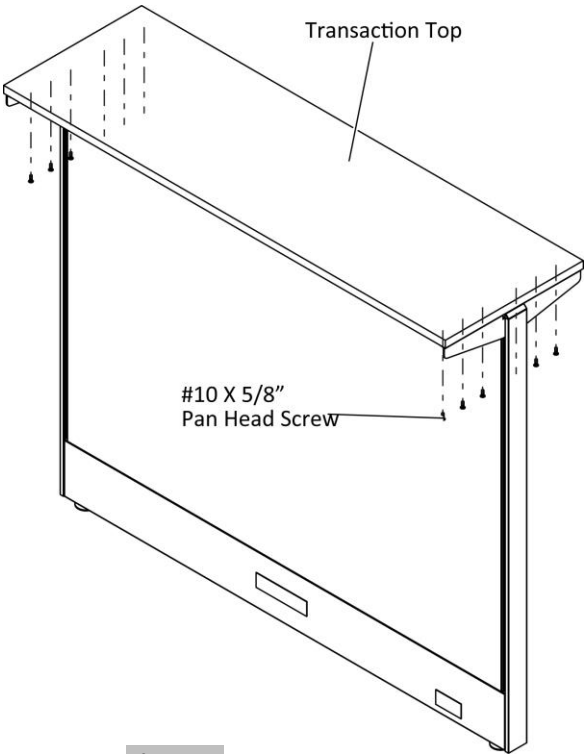

Figure 2
- 3. Position the transaction top over the brackets and align the holes in brackets to the pilot holes provided in the underside of the transaction top, (Figure 2).